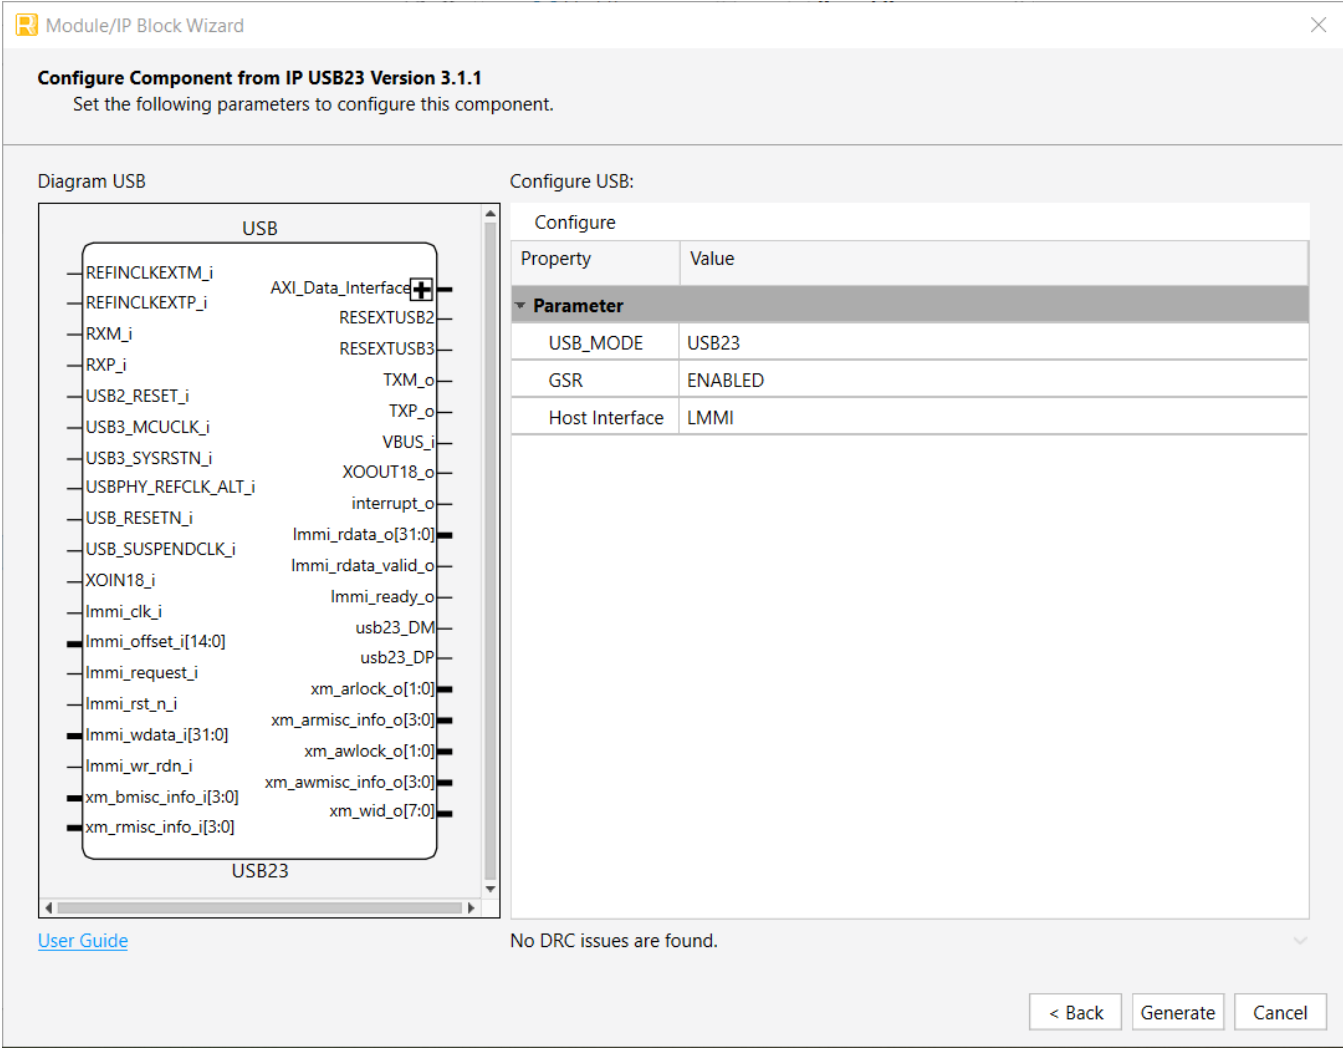

Figure 7.2. IP Configuration
3. In the next **Module/IP Block Wizard** window, customize the selected USB 2.0/3.2 IP using the drop-down lists and check boxes. Figure 7.2 shows a configuration example of the USB 2.0/3.2 IP core. For details on the configuration options, refer to the *Attributes summary* section.